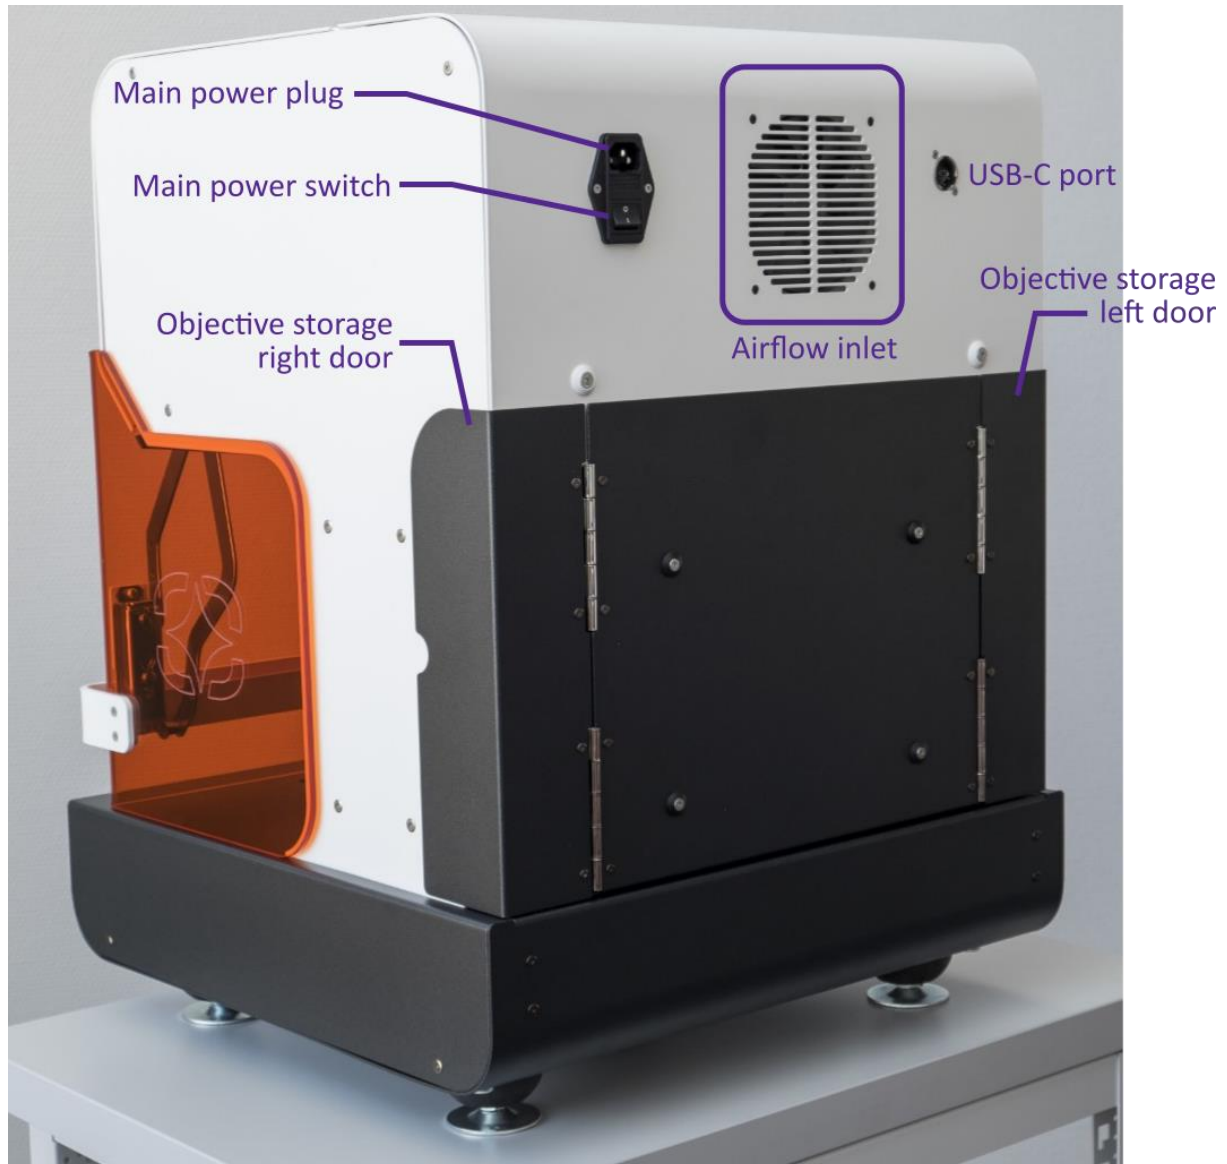

Figure 4 – Back view
Smart Print UV must be connected directly to an appropriate wall outlet from the main power plug on the back of the machine (Figure 4) via the appropriate cable.
- The provided monitor must be connected via its USB-C cable to the USB-C port on the back of the machine (Figure 4).